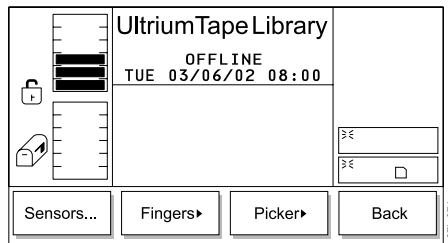

Figure 283. Diags Submenu
- Press the button below the **Diags** softkey. The Diags Submenu displays (see Figure 283).